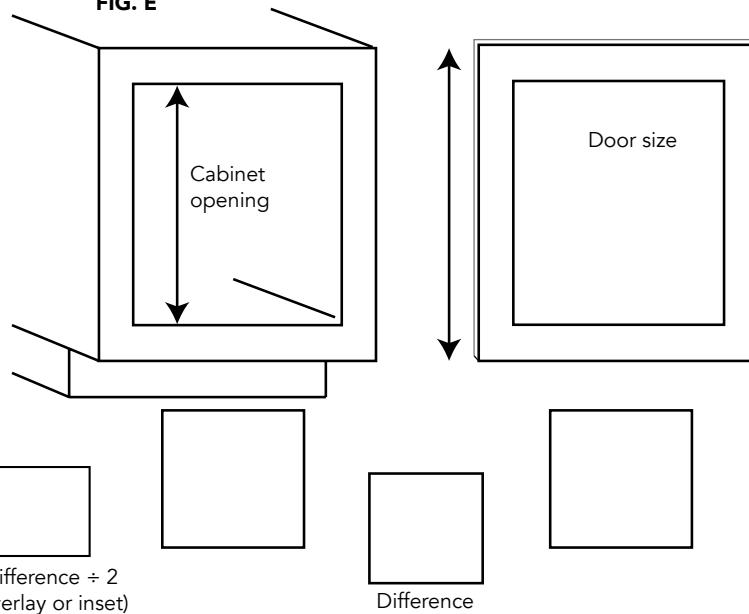

FIG. F1
Mark screw locations to the center of the thick portion of the door, pre-drill pilot holes, and attach door with (4) 6 x 1/2" flat head screws (See Fig. F1).